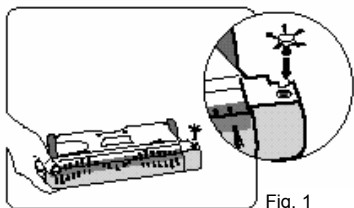

Fig. 1
1. Insert the Edging Tool into the "square" hole under the bottom of the sweeper power head. Gently but firmly push until the edging tool locks into place. (Fig. 1)